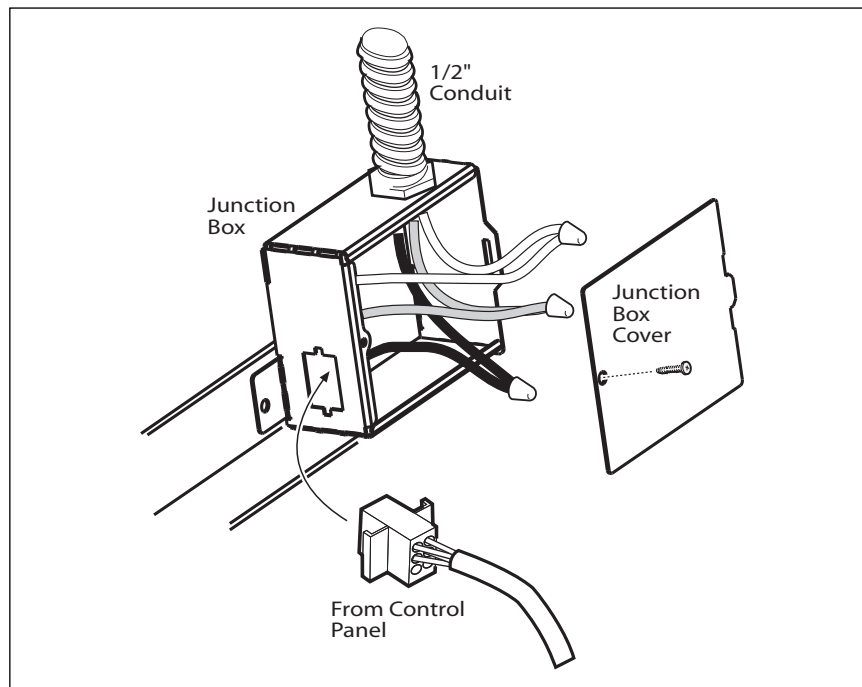

FIG. 14
1. Remove j-box cover as shown in Fig. 14.
4. Connect black wire from service panel to black or red in junction box, white to white and green to green-yellow. See Fig. 14.